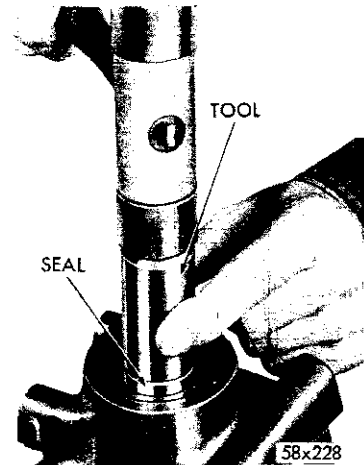

Fig. 54—Installing the Pump Oil Seal (Typical)
(7) Install the new seal with the lip of the seal toward the pump. Use Tool C-3782 to drive the seal flush with the insert (Fig. 54).